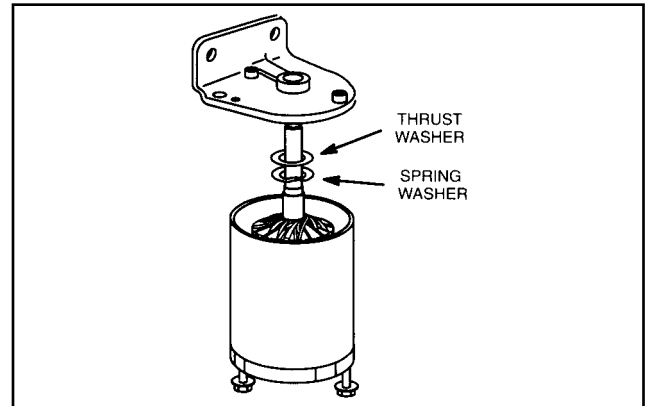

**Fig. 15 - Assemble Brushes**
**Note:** Brush retainers may be made using control wire (Briggs & Stratton P/N 26634) as shown in Fig. 15.